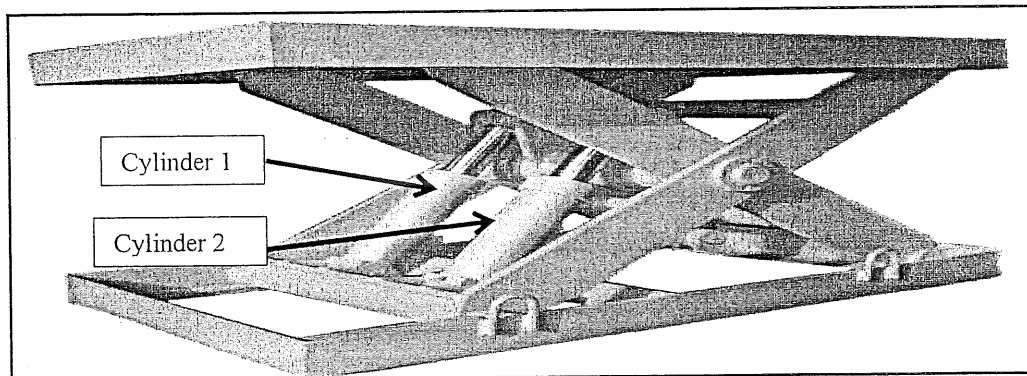

Figure 3
b) Figure 3 shows a hydraulic car lifting machine, when the 4/3 way valve is activated to the right the two cylinders (cylinder 1 and cylinder 2) will extend and if the 4/3 way valve is activated to the left, the two cylinders will be retracted, and if the 4/3 way valve is centered position, the two cylinders will stop at any positions. The purpose of using a 4/3 valve neutral at mid position is to allow the machine to stop where the desired position.
- b) Figure 3 shows a real hydraulic system, according to the figure 4 :